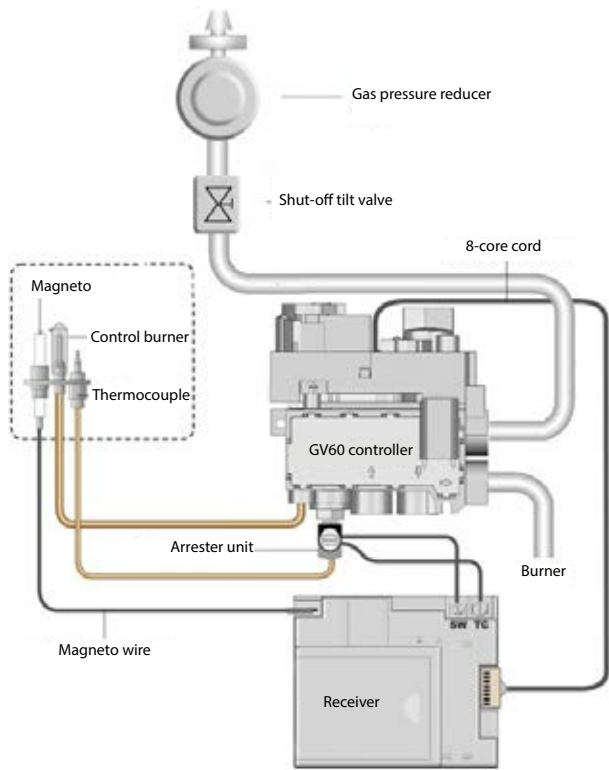

Fig. 7. Diagram of connecting the automatic gas control system
- Remove the glass according to the instructions on page 18, place the decorative elements on the burner evenly according to the image (fig. 7) and then reinstall.